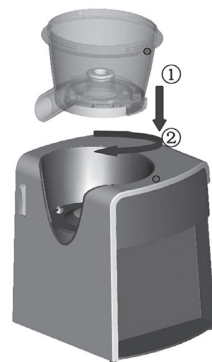

Fig. 2
- 1) Insert the pulp container (1) into the motor unit (2).
- 2) Seat the juice collector (4) on to the motor unit (2) and turn it in the clockwise direction (fig. 2).